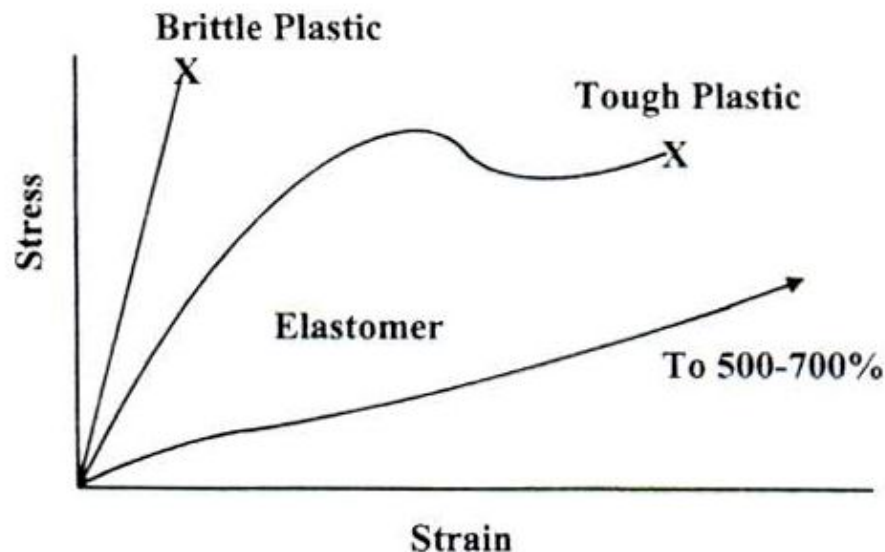

Figure 1.7
- Depending on the region of viscoelastic behavior, the mechanical properties of polymers differ greatly. Model stress-strain behavior is illustrated in **Figure 1.7** for regions 1, 2, and 3.